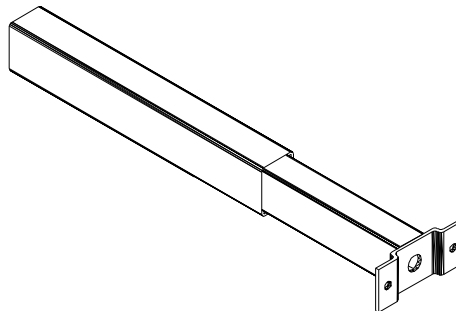

Figure 5
- 1) Center the pivot pin mounting bracket on the adjustable leg. Refer to figure 5.